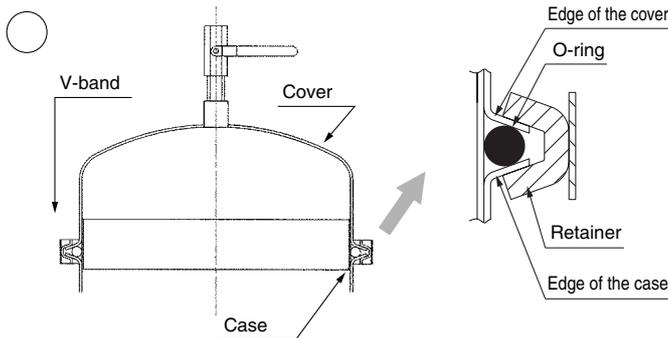

Fig. 7 How to install the V-band correctly.
1. Install the V-band in the edge of the cover and case correctly. (Refer to Fig. 7, 8.)